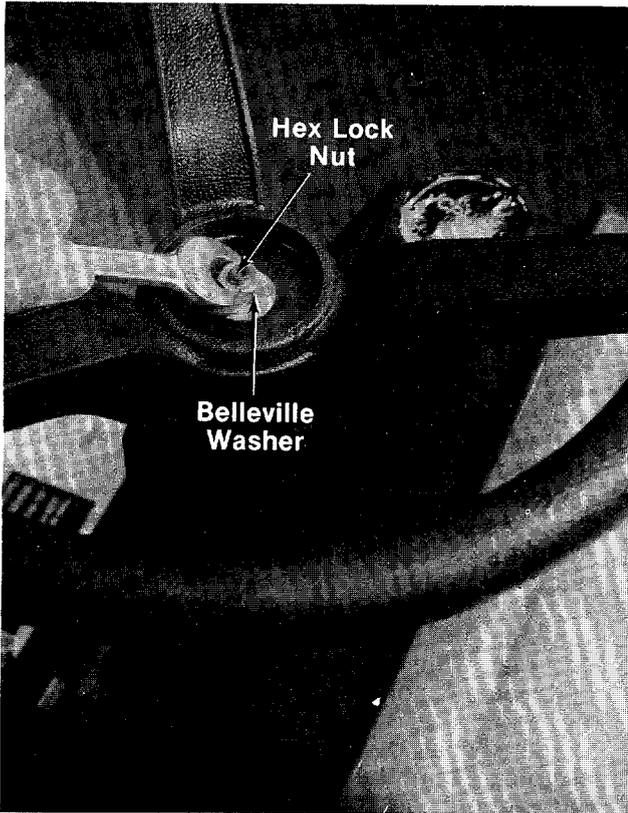

FIGURE 1.
2. Place the steering wheel over the steering column by lining up the flats on the steering column with the flats in the steering wheel. See figure 1.